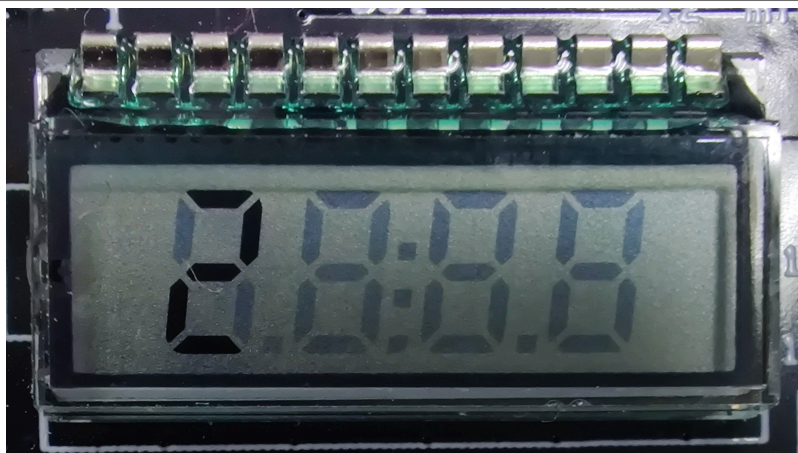

Figure 9. STOP mode
6. Select the target power mode by typing "0" to "9" in the UART terminal. Most power modes support waking up either by using the LPTMR or **SW2** button event. The target power mode is activated after selecting the desired wakeup source. Figure 9 shows the SLCD displaying the current power mode.